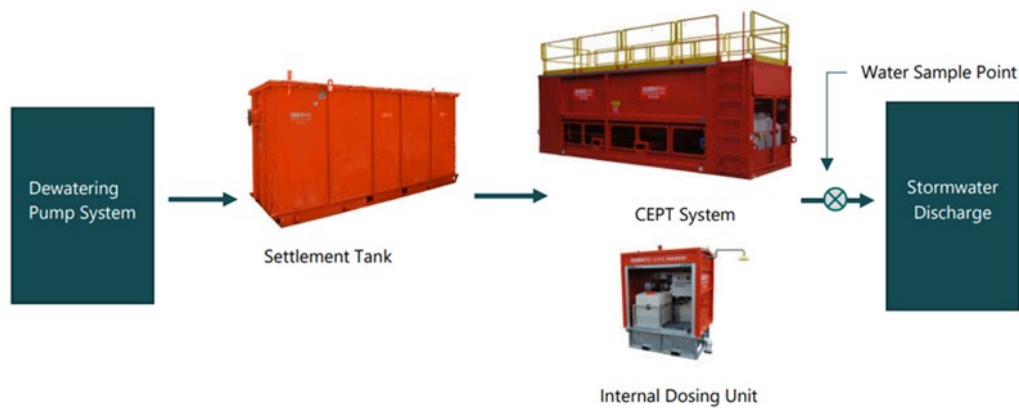

Figure 6: Indicative possible treatment system where analyte values exceed Council, ANZG or NEPM threshold values
1. All seepage water within the proposed excavation must be detained on site for testing prior to discharge to stormwater. The site detention should comprise a sump pit which is a minimum 2 m x 2 m x 1 m deep, maintained at the location shown on **Figure 6** below (one sump pit per basement excavation). This will be excavated as the excavation level is lowered to maintain a sump point within the basement. In the event of a high period of rainfall the existing sump pit can be expanded to accommodate the increased volume of water. The sump is only required where existing stormwater systems are removed.
- o If water quality testing exceeds ANZG, ANZECC and NEPM threshold values then water treatment facilities must be set up on site prior to any discharge from site. This can be achieved by either mixing the discharge water with fresh water to dilute the metal concentration. This may require water storage on site in tanks depending on the progression of the excavation works. Alternatively, water treatment facilities such as those shown below must be established on site to treat stormwater/groundwater prior to any discharge from site. The system must be verified to have reduced analyte levels to below relevant thresholds prior to discharge to stormwater. An indicative water treatment option prior to discharge to stormwater is shown in **Figure 6** below.